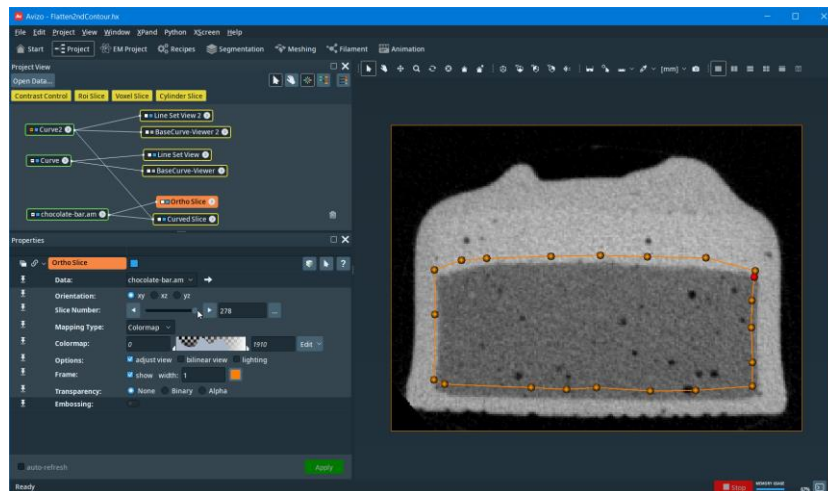
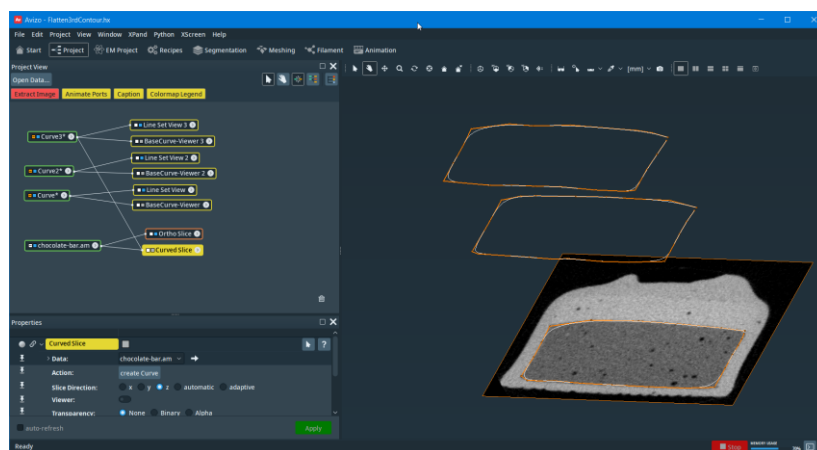

Figure 12
Figure 13
14. Repeat the construction of as many contours as you need. We will limit to just a final one on a third plane. Select the slice number 278 to define this plane. The former “Curve2” can be shown as to appreciate its difference from the current boundary, see Figure 12 .Press again the “create Curve” button in the Properties of the “Curved Slice” module. Select the “Curve3” module in the “Project View” and repeat steps documented above from the number 8. to the number 11. Again, it is mandatory to use the same orientation and the same number of points used before. The third curve is show in Figure 13. The project Flatten3rdContour.hx contains the project at the end of the construction of the third contour.